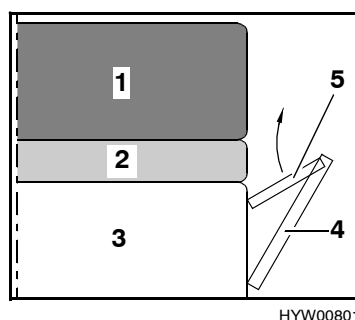

Fig. 53 During conversion
- Lift bedding box extension (Fig. 53,5).